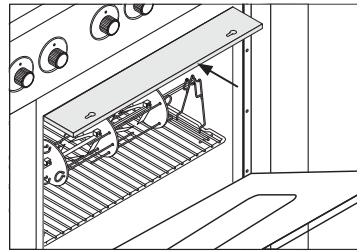

fig.4
**When cooking with the grill, we recommend that you keep the oven door open and that you apply the knob protection shield as indicated in figure 4.**